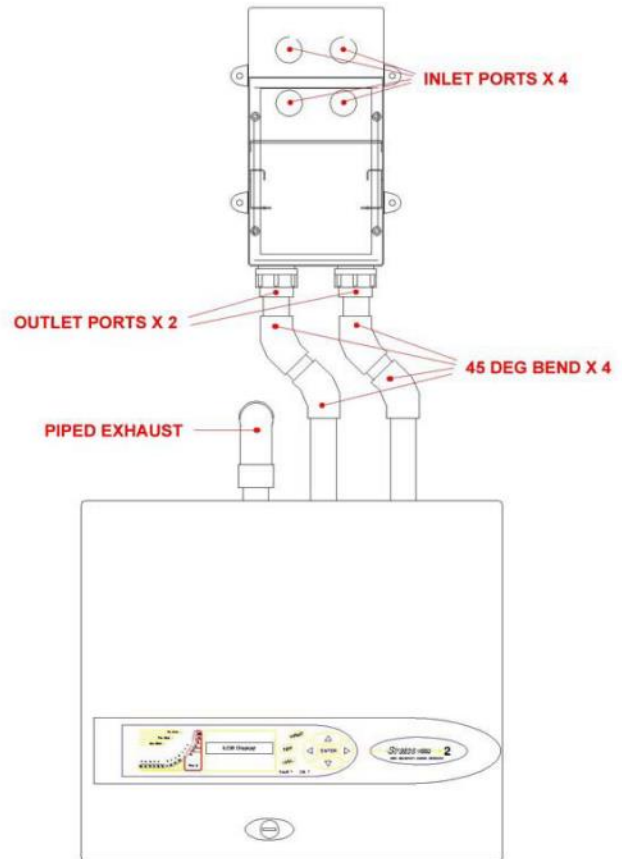

Fig. 3 Typical installation format
3. The sampling pipe should enter the rear of the heater box using the appropriate number of inlet ports (four provided) immediately after exiting the cold area. The two pipes exiting the base of the heater box then enter the detector. To allow for the pipe work transition from the heater box to the detector, adequate space should be allowed for 2 x 45° bends per pipe as shown in figure 3.